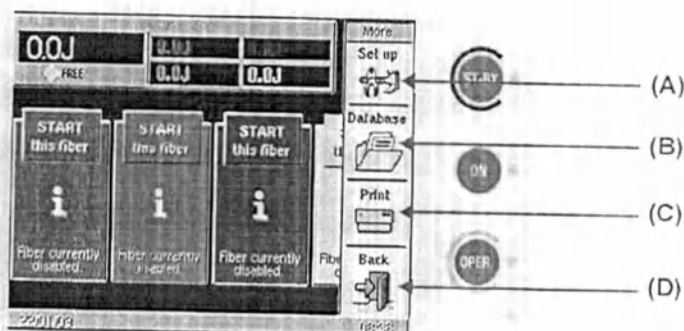

Fig. 16 - "More" menu
By touching the area on the left "More" in the User menu, the apparatus displays the menu shown in Fig. 16.
Touch the area "Back" - (D) in Fig. 16 - or anywhere but "Other" to go back to User menu.
The area shown as (A) in Fig. 16 allows to set the apparatus clock and date, to regulate the brightness of the screen and to select the language.
The "Database" option - inside the additional options, (B) in Fig. 16 - allows the user to store groups of treatment parameters (for example number of used fibers, settings and any notes about treatment) offering the advantage to automatically recall and set the treatment configuration.
Touching the area pointed by (B) in Fig. 16, apparatus opens the "USER DATABASE" displaying the
"Print" option - see (C) in Fig. 16 - allows the operator to print a report where all the data of last laser treatments performed are summarized (if the printer is connected to the ECHOLASER X4 apparatus).